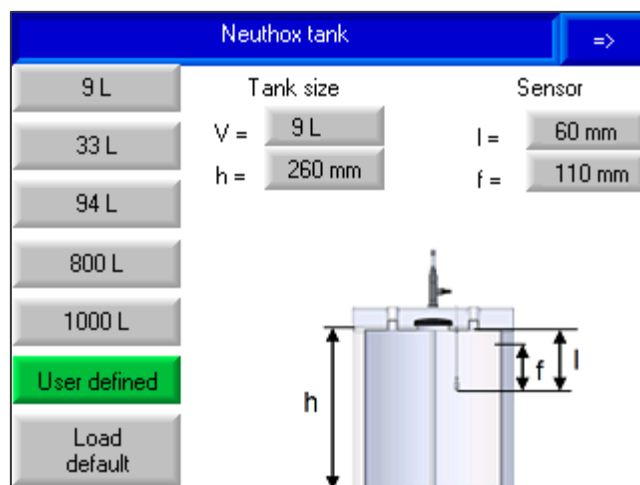

Figure 41 - Configuration of Neuthox® tank
- l: Distance from the level sensor to the top of the tank as shown on Figure 41.